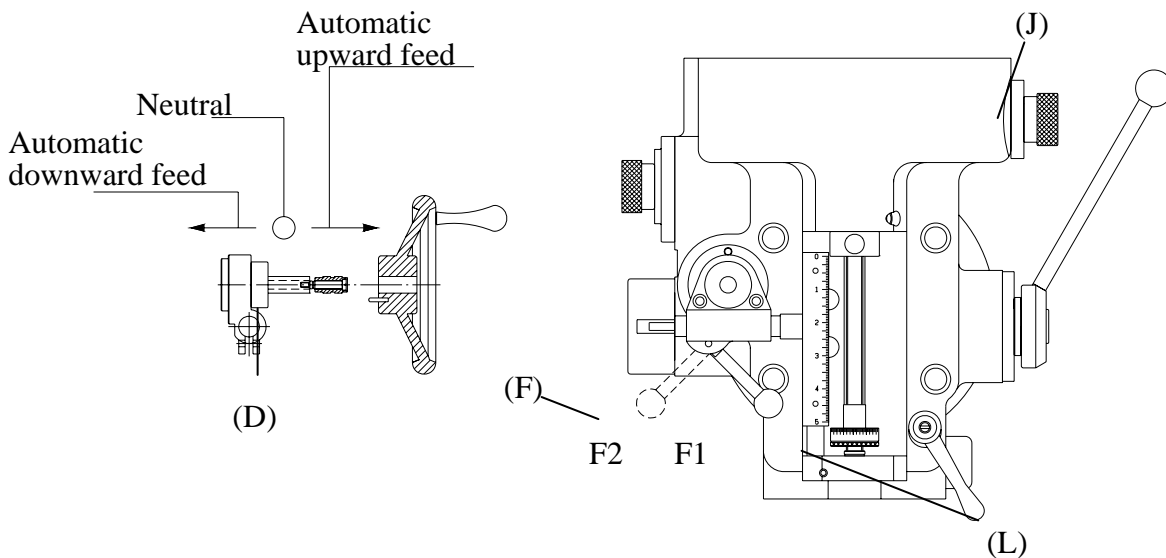

FIG6-1
The manual feed lever is installed on the right side of head stock.(vide FIG.6-1) The spindle will vertically when the lever is turn. An operator can freely take out the lever and install it again at the position deemed proper and fit.
NOTE : In manual feed, the feed control handle must be placed at position (F) as shown in (FIG 6-1).
To effectuate the manual micro motion feed, the power feed transmission engagement crank (J) (FIG 6-1) shall be placed at "OUT" position, and feed reverse knob (d), at the neutral position.Feed control lever (F) must be pulled from (F1) to (F2). This is to engage the overload clutch. Turn the feed hand wheel (E) clockwise for quill downward feed, and vice-versa.
For automatic feeding; please take the following steps(vide FIG.6-1)
- (5). When the feed control lever knob (D) is pressed inward (FIG 6-1), it is for downward feed; and vice-versa: The middle position is neutral.
2. The power feed transmission engagement crank (J) (FIG.6-1)